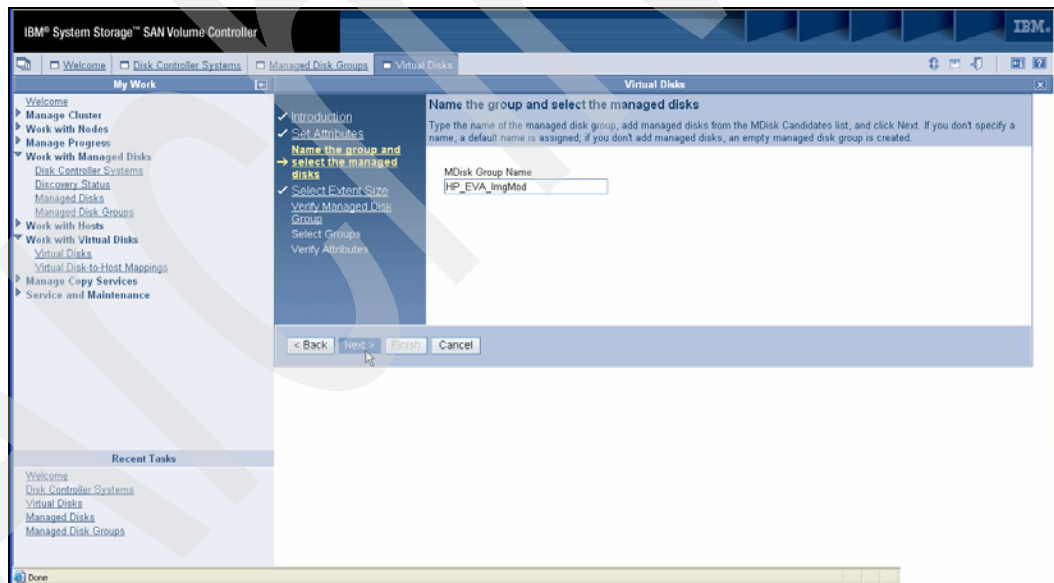

Figure 7-14 Create Image Mode VDisk name MDisk group
- Figure 7-14 shows the next panel, where you must enter an MDisk group name. This panel will only appear if you checked the **Create an empty MDisk group** box. We recommend that you use a descriptive name; in this example we entered *HP_EVA-ImgMod*. Click **Next**.